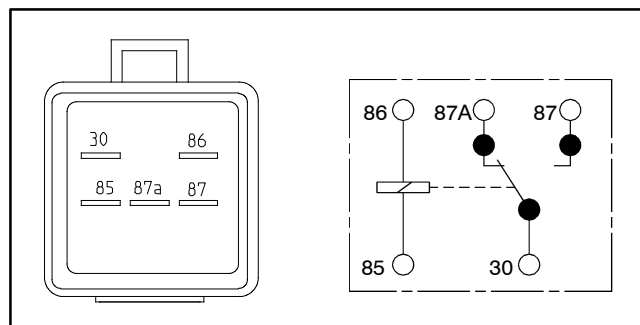

Figure 55
4. Using a multimeter (ohms setting), measure coil resistance between terminals 85 and 86 (Fig. 55). Resistance should be between **70 and 90 ohms**.